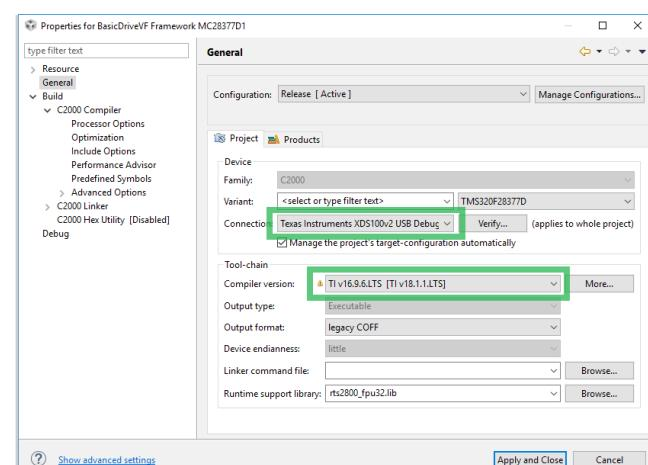

Figure 14: The general properties of the project, showing the selections for debug probe and compiler version.
- In the **Windows** menu, select the **Preferences** menu item to show the **Preferences** dialogue box. See Figure 14.
- In the navigation pane at the left, select General to show the General properties. See Figure 14.